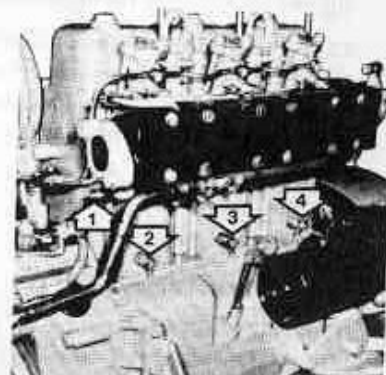

Fig. 26. Drain cocks for cooling water
- f. Drain all cooling water from the engine by opening all the drain cocks, see Fig. 26. **The rustproofing mixture does not protect the engine from frost.**